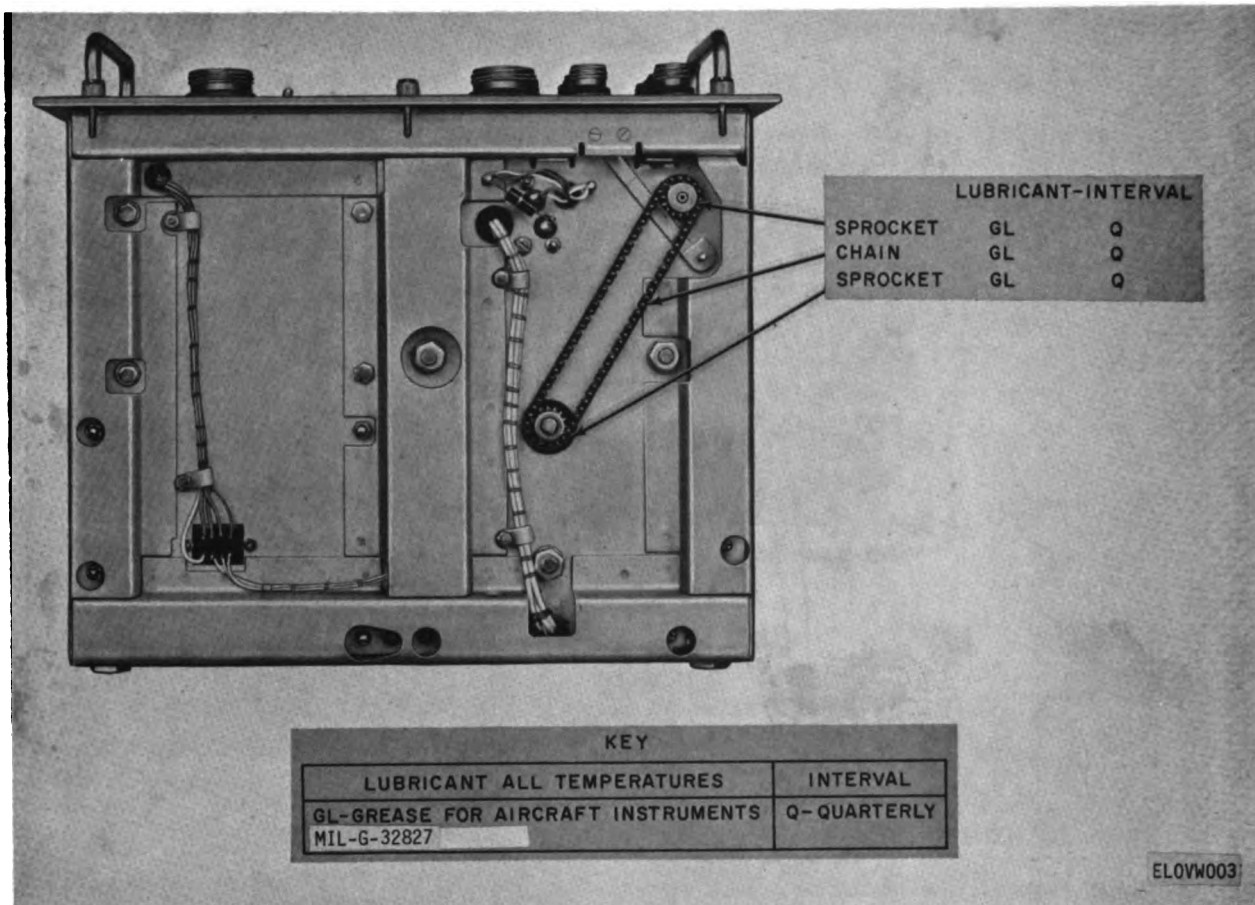

Figure 5-3. Regulator, Voltage CN-514/GRC, lubrication points.
c. Regulator, Voltage CN-514/GRC. Loosen the mounting screws that attach the CN-514/GRC to the component case and remove the CN-514/GRC from the component case. Clean the sprockets and the chain with a brush dipped in cleaning compound (fig. 5-3). Apply a light film of grease (GL) to the sprockets and chain with a clean brush.